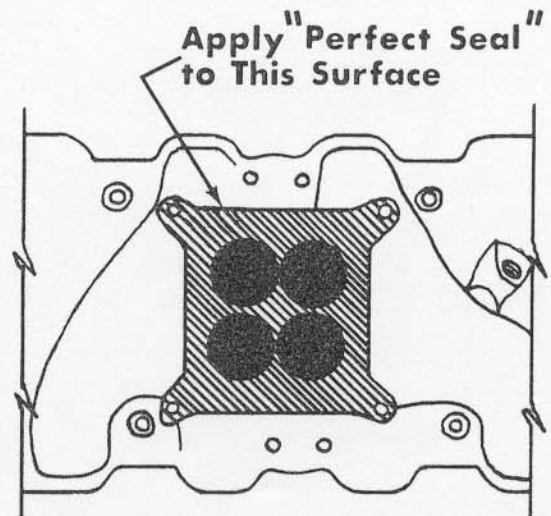

Figure 1. Intake Manifold Surface
4. Coat entire wedge mounting surface of intake manifold thoroughly with Perfect Seal (C-92-34227-1). (Figure 1)